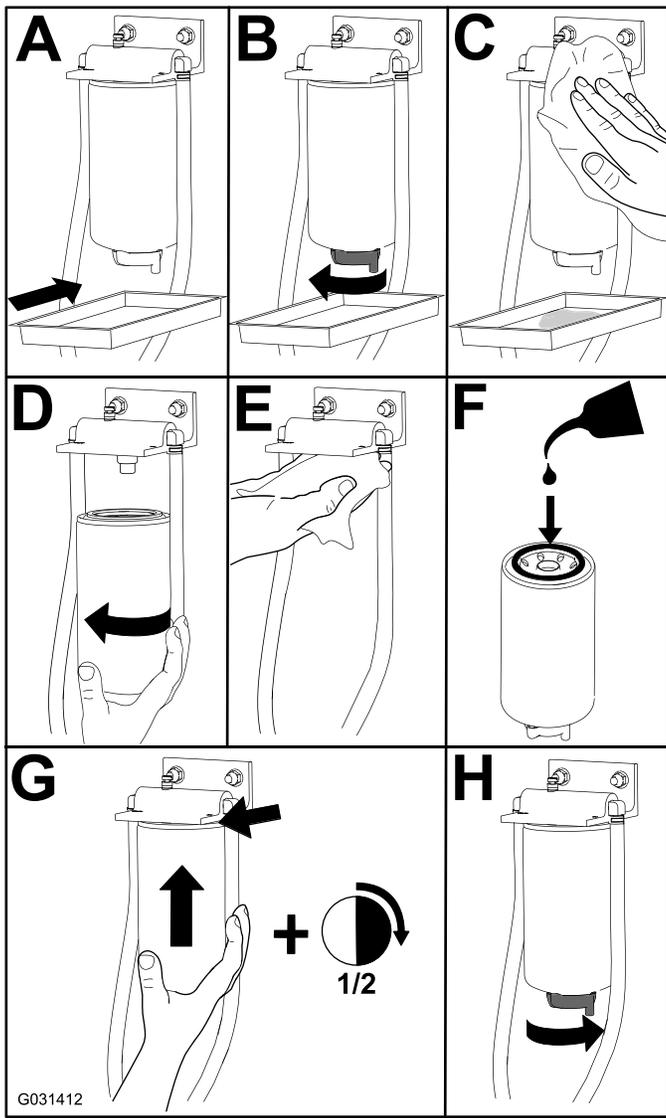

Figure 120
1. Replace the filter as shown in Figure 120.